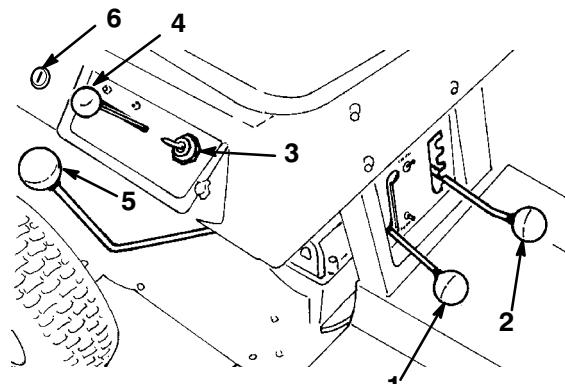

Figure 5
Become familiar with all the controls (Fig. 5) before you start the engine and operate the machine.
(Fig. 5)—Transaxle has five forward speeds, neutral and reverse. The gear shift lever is located at right side of operator. An interlock switch prevents engine from being started when transaxle is in any gear except neutral.
(Fig. 5)—Engages and disengages the cutter blade. An interlock switch prevents engine from starting when control is in the ENGAGE position. Engine will start when control is in DISENGAGE position only.
(Fig. 5)—Connects to and operates carburetor mounted throttle and choke. Control has four positions: IDLE, HOT RESTART, OPERATE and CHOKE. Push control slightly to the left and upward to obtain CHOKE position.
(Fig. 5)—Turn and release switch used for deactivating the “Operating-In-Reverse” interlock feature. Located on the right hand side panel, below and to the rear of the seat.
(Fig. 5)—Switch is part of engine ignition system, and it has three positions: OFF, ON and START. Key automatically returns to ON position from START position when released after engine starts.
(Fig. 5)—Control varies the cutting height from approximately 1-1/2 to 3-1/2 inches (38 to 89 mm) in five increments.
2. Move the throttle control to CHOKE position (Fig. 5) when starting a cold engine. However, a hot engine requires no choking. Move throttle to FAST position for starting.
3. Rotate ignition key (Fig. 5) to START position. When engine starts, release the key and move throttle between FAST and SLOW if choke was used for starting. Operate the rider with throttle control in FAST (full throttle) position for best performance.